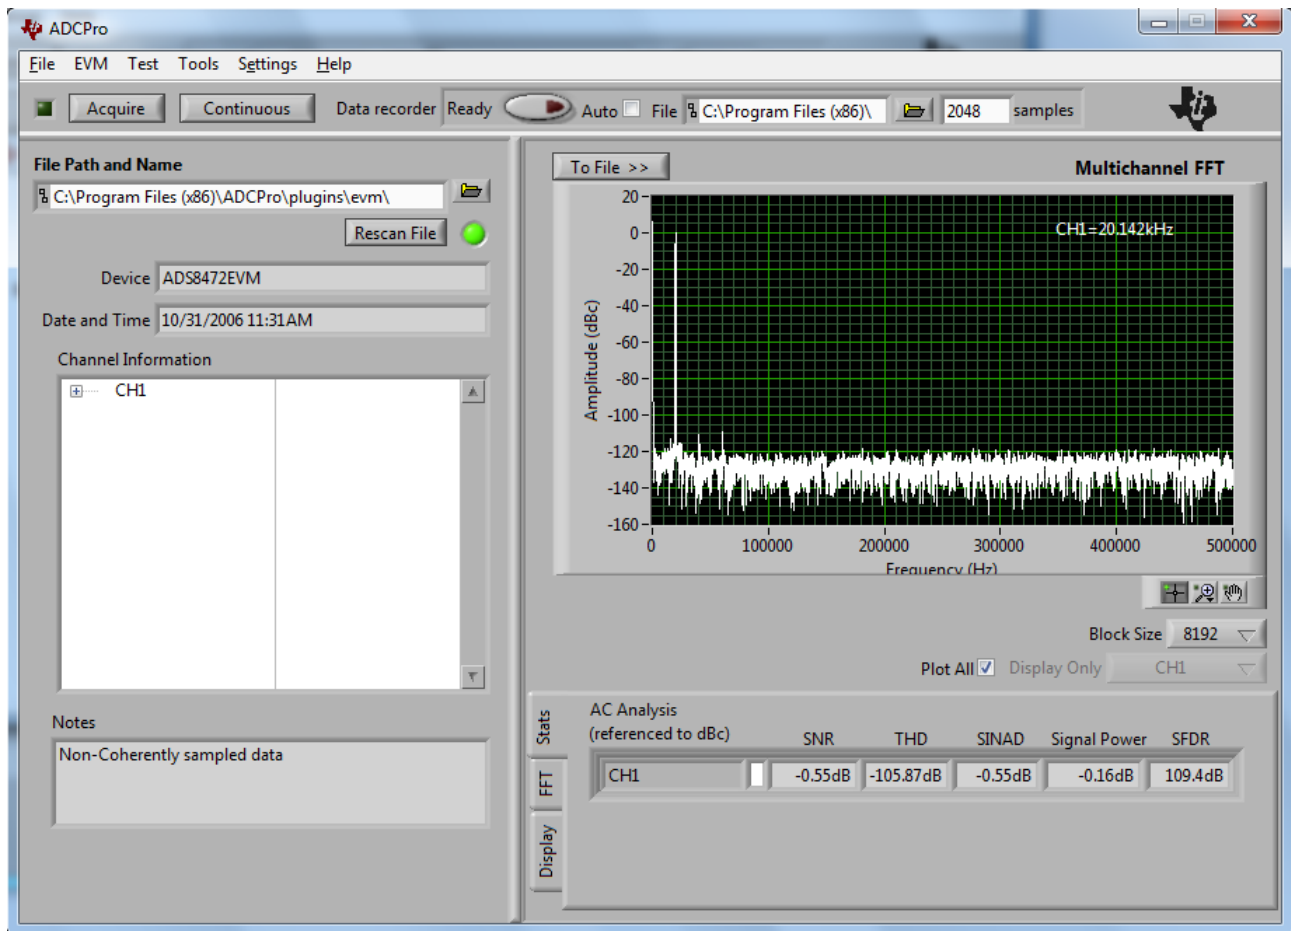

Figure 30. Data Recorder Set Up with File and Length Specified
4. Select a number of samples to record by putting a number in the **Length** control. Note that **Length** does not have to be the same size as a loaded test block size. Figure 30 shows the Data Recorder with file and length values specified.